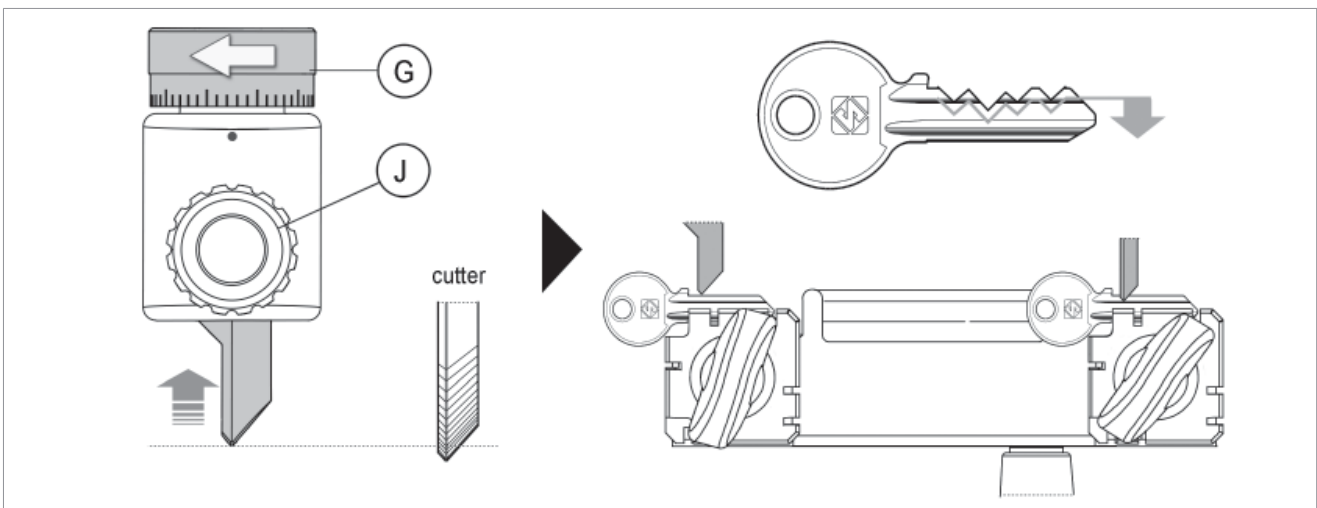

Fig. 19
- c) turn the ring nut (G) counterclockwise to return (deeper cuts) (Fig. 19).